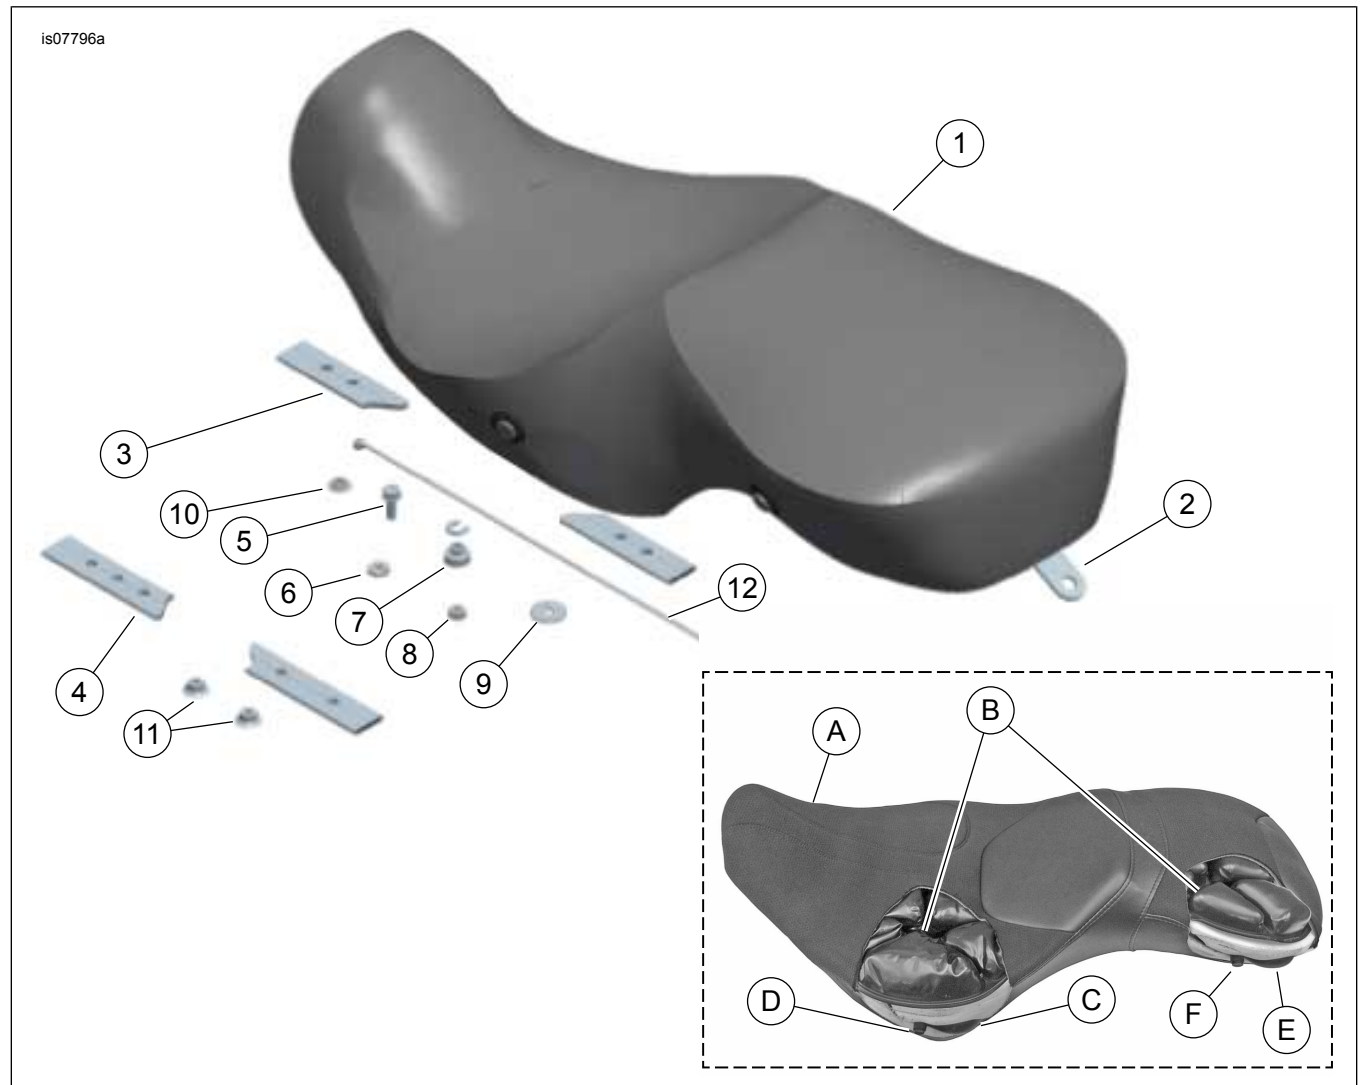

Figure 9. Service Parts, Road Zeppelin Air Adjustable Seat Kits
1. See Figure 9. Get the grab strap (4) from the kit.